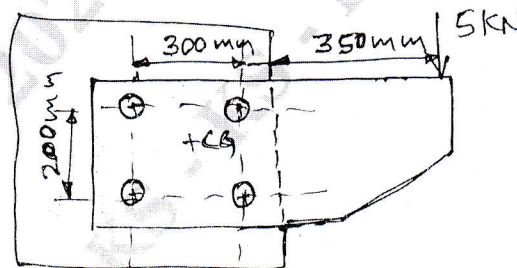

Fig.Q9(b)
- b. A bracket is bolted as shown in Fig.Q9(b). All the bolts are identical and have yield strength of 400MPa. Determine the size of bolts. Use FOS = 3.